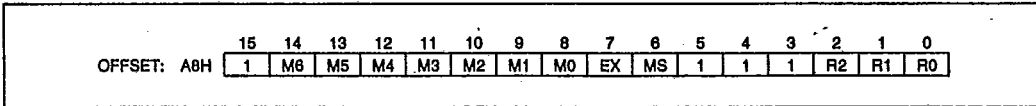

Figure 16. MPCS Register
The mode of operation of the peripheral chip selects is defined by the MPCS register (which is also used to set the size of the mid-range memory chip-select block, see Figure 16). This register is located at offset A8H in the internal control block. Bit 7 is used to select the function of $\overline{PCS5}$ and $\overline{PCS6}$, while bit 6 is used to select whether the peripheral chip selects are mapped into memory or I/O space. Table 11 describes the programming of these bits. After reset, the contents of both the MPCS and the PACS registers are undefined, however none of the PCS lines will be active until both of the MPCS and PACS registers are accessed.
words), a 20-bit destination pointer (2 words), a 16-bit Transfer Counter, and a 16-bit Control Word. The format of the DMA Control Blocks is shown in Table 13. The Transfer Count Register (TC) specifies the number of DMA transfers to be performed. Up to 64K byte or word transfers can be performed with automatic termination. The Control Word defines the channel's operation (see Figure 16). All registers may be modified or altered during any DMA activity. Any changes made to these registers will be reflected immediately in DMA operation.